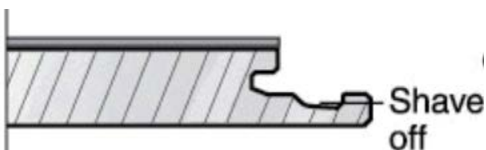

Fig. 18
2. If installing stairnose against a groove end, shave the lock down to allow the stairnose to sit flush on the groove (Fig. 18).